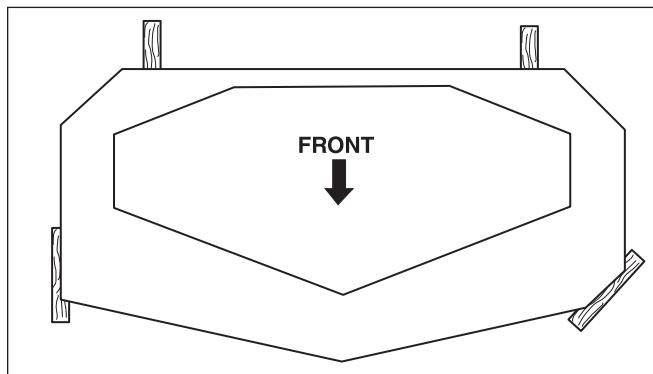

Figure 38. 2 x 4 Locations
- Block up the mower deck until all hanger chains are slack. Refer to Figure 38.
- Place 2 x 4 blocks under each corner of the mower deck with the 3-1/2" sides being vertical. Place a 1/4" (0,64 cm) thick spacer on top of the rear 2 x 4 blocks. See Figure 38.